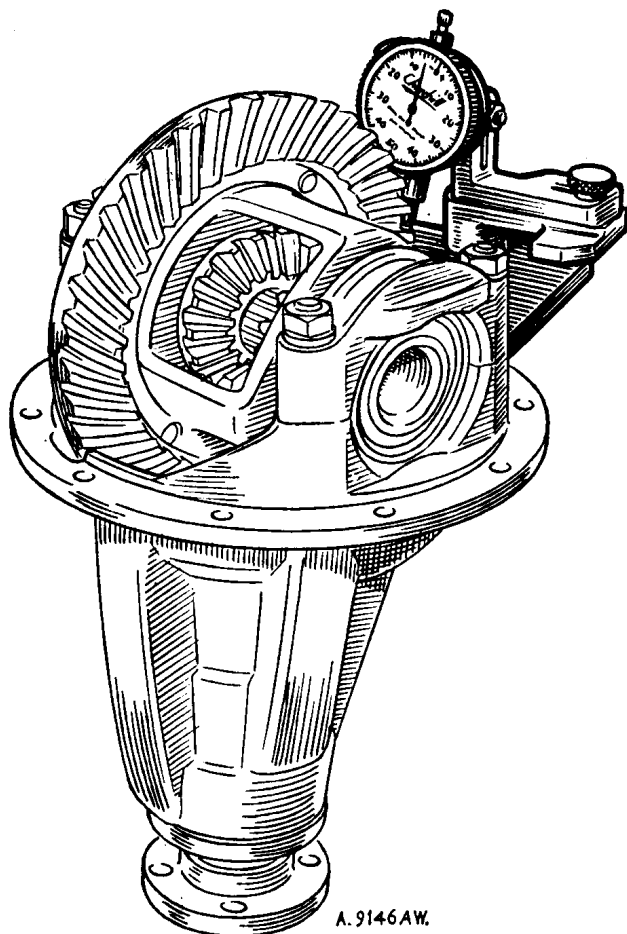

Fig. HH.11
- (2) Fit the differential to the gear carrier. Replace the bearing caps and tighten the nuts to a torque wrench reading of 65 lb. ft. (8.99 kg. m.). Bolt the special tool surface plate to the gear carrier flange and mount the clock gauge on the magnet bracket in such a way that an accurate backlash figure may be obtained (see Fig. HH.11). The correct figure for the backlash to be used with any particular crown wheel and pinion is etched on the rear face of the crown wheel concerned and must be adhered to strictly.